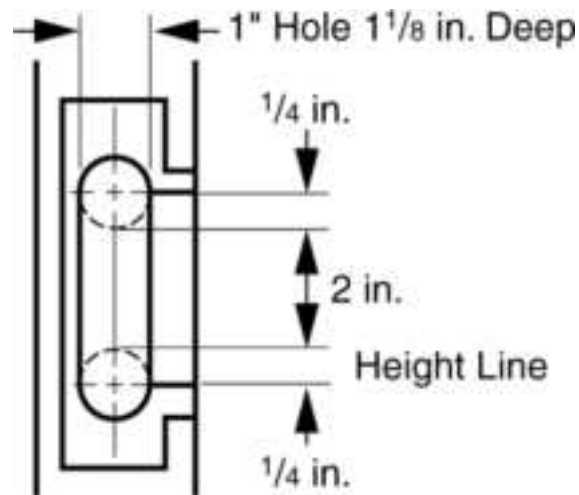

**Figure 13.59** Clear area between holes.
6. Mark vertical and height lines on the jamb exactly opposite the center point of the lower latch hole. Mark a second horizontal centerline 2 inches above the height line for the deadbolt hole. Bore a 1-inch-diameter hole  $1\frac{1}{8}$  inch deep and  $\frac{1}{4}$  inch below the height line. Bore a second hole to the same dimensions  $\frac{1}{4}$  inch above the second horizontal line. Clear out the area between the holes for the strike box (Fig. 13.59 ).